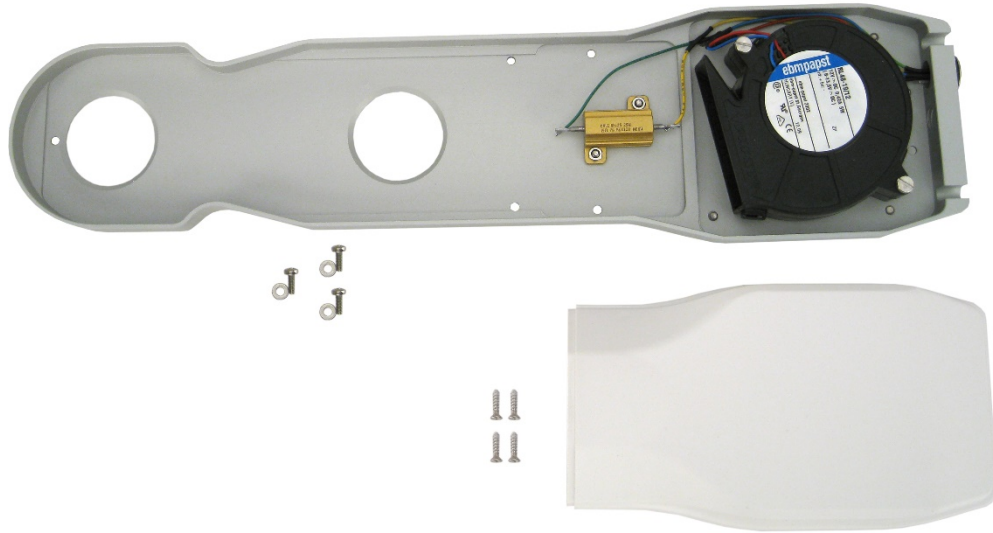

FIGURE D-1. CNF4 package contents
1. The CNF4 heater/ventilator unit comes with the following: the heater/ventilator, the white solar shield, three pan-head screws with washers, and four flat-head screws as shown in FIGURE D-1.